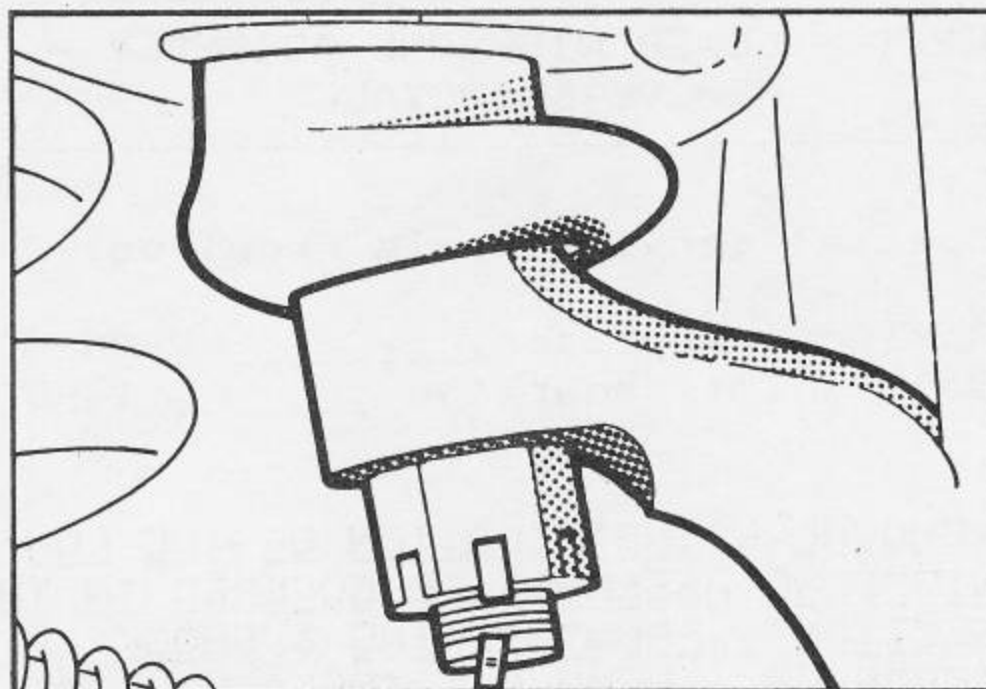

Fig.45 Fit stub axle securing nut & split pin.
12. Fit upper arm ball joint to stub axle and secure with nut. Tighten nut to 30 - 40 Ft. Lbs. and continue tightening until split pin hole is aligned and fit new pin. Do not exceed 66 Ft. Lbs. Fig.45